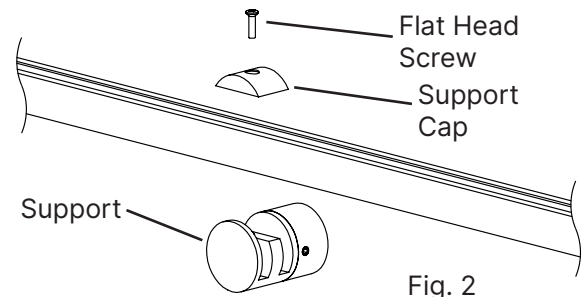

Fig. 2
2. Remove **Flat Head Screw** and **Support Cap** and align **Power Bar** with **Support** (Fig. 2).